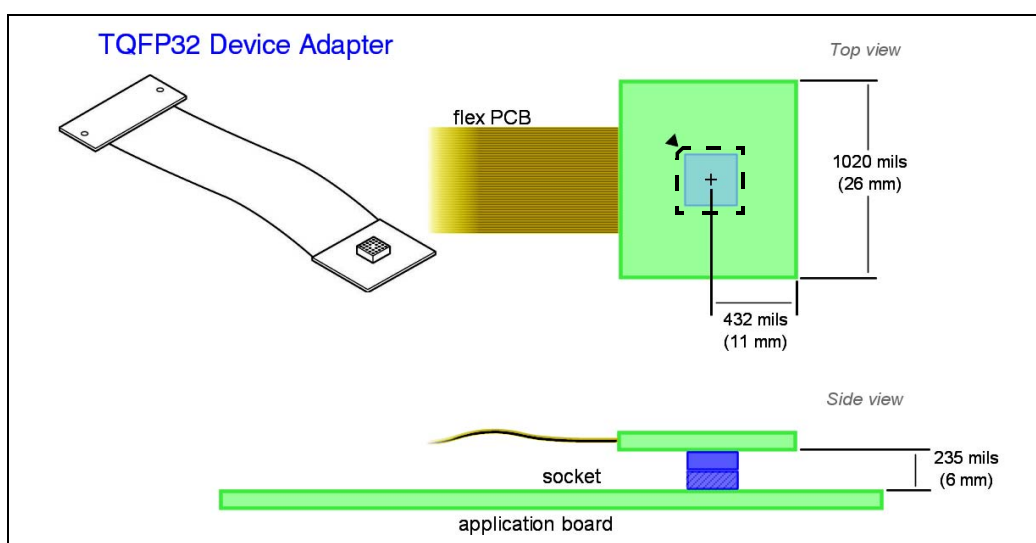

Figure 11: Device adapter critical dimensions
- 1 Solder the TQFP32 socket (Ironwood SK-UGA06/32A-01) onto your application board. Keep in mind, when designing your application board you should ensure that there will be enough room to accommodate the device adapter (Ref.: DB522), which will connect to the socket in place of your MCU (see Figure 11).